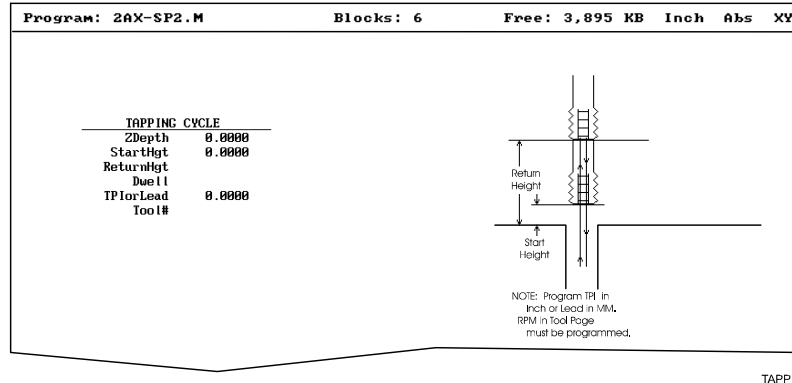

Figure 5-5, Tapping Cycle Graphic Menu
2. Highlight **Tapping**, and press **ENTER** to display the **TAPPING CYCLE** Graphic Menu. Refer to **Figure 5-5**.